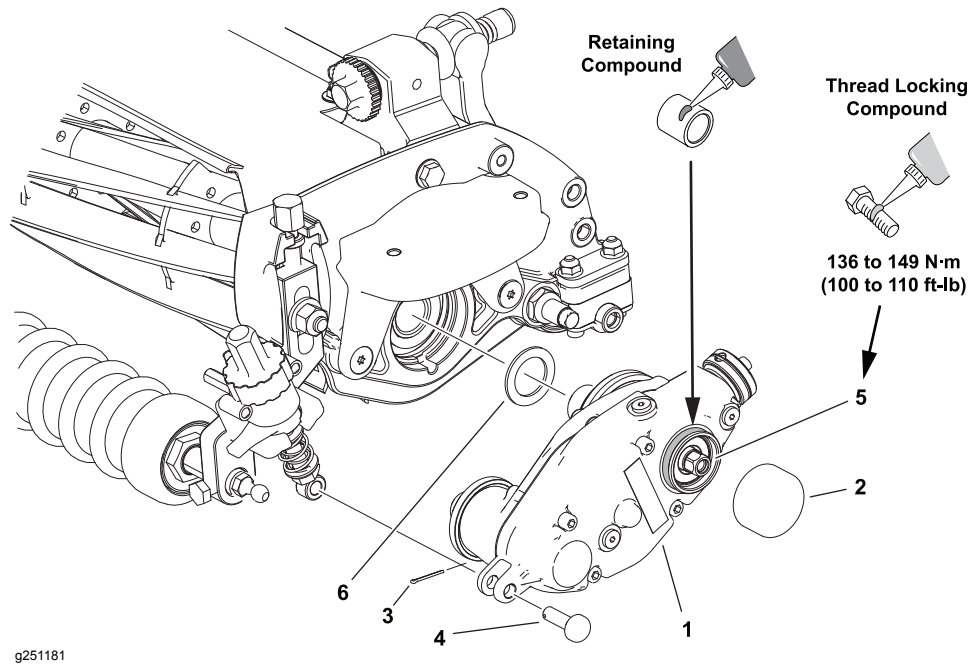

Figure 2
- D. Retrieve the shim (item 6 in Figure 2).
- A. Fit the shim (item 6 in Figure 2) over the input shaft.